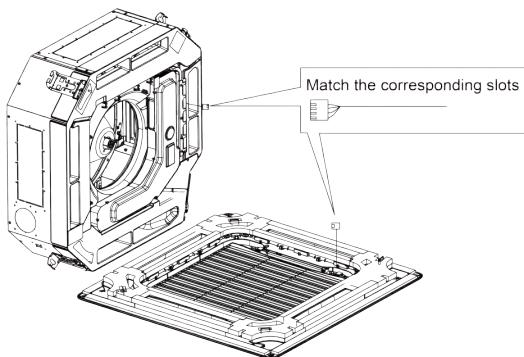

Fig. 4.33
- (4) Wire the swing flap motor as shown in Fig. 4.33.